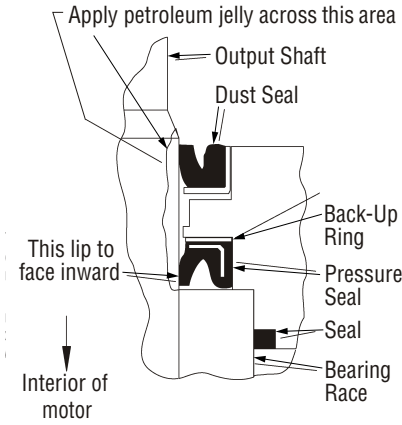

Figure 5-33, Output Shaft Lubrication
12. Before installing the mounting flange and seal assembly over the shaft, place a protective sleeve or bullet over the shaft. Then lubricate the space between the exclusion seal and pressure seal, as well as the lips of both seals. (Figure 5-33)